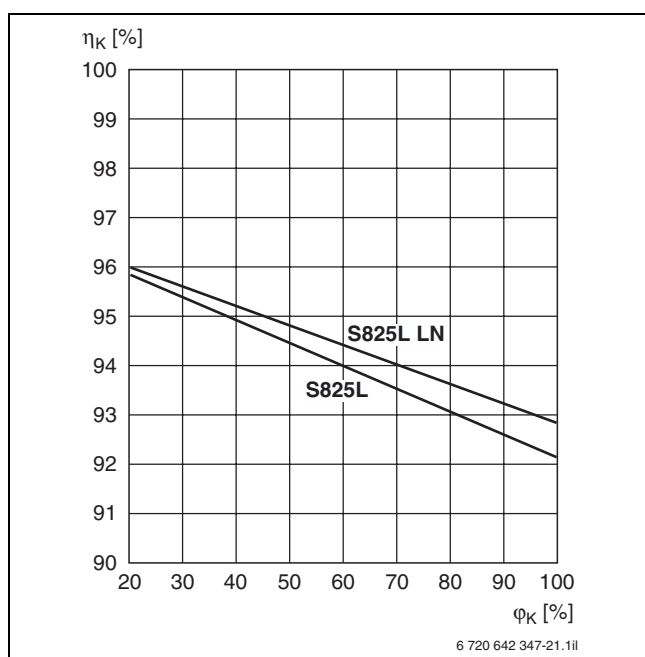
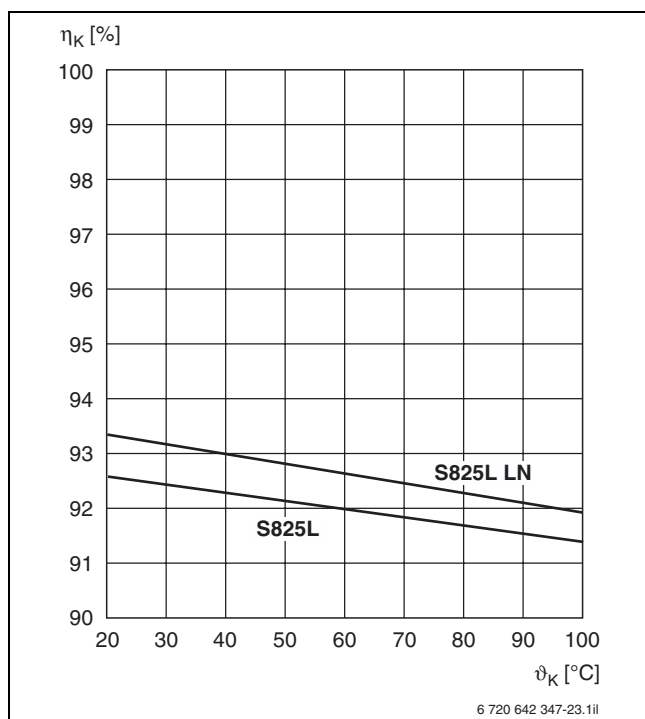

Fig. 25 Boiler efficiency Logano S825L/L LN subject to boiler load (averages for the series); system temperature 80/60 °C
Fig. 26 Boiler efficiency Logano S825L/L LN subject to the average boiler water temperature (averages for the series)
The graph in Fig. 25 (page 39) shows the boiler efficiency subject to the boiler load, to EN 303 relative to a system temperature of 80/60 °C (→ Fig. 30, page 42 and Fig. 31, page 43). Fig. 26 shows the boiler efficiency subject to the average boiler water temperature.
- 1) Relative to a system temperature of 80/60 °C. For other system temperatures, the boiler efficiency changes according to Fig. 26, page 39.
- 2) Relative to the maximum rated output; for reduced rated output levels, the boiler efficiency rises according to Fig. 25, page 39.